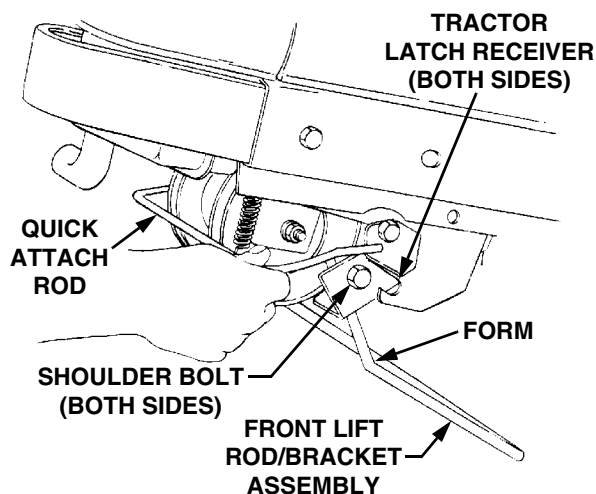
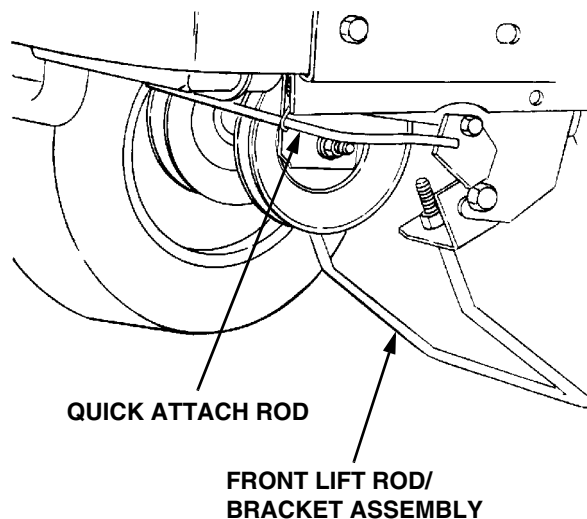

Figure 44
Figure 45
4. Refer to Figure 44 to ensure the correct orientation of the front lift rod/bracket assembly [form (bend) in sides of rod point downward]. From the front of the tractor, push downward and hold the tractor quick-attach rod. Slide the shoulder bolts on each side of the front lift rod/bracket assembly fully into the left and right tractor latch receivers. Release the tractor quick-attach rod to capture the front lift rod/bracket assembly in the tractor latch receivers (Refer to Figure 45).